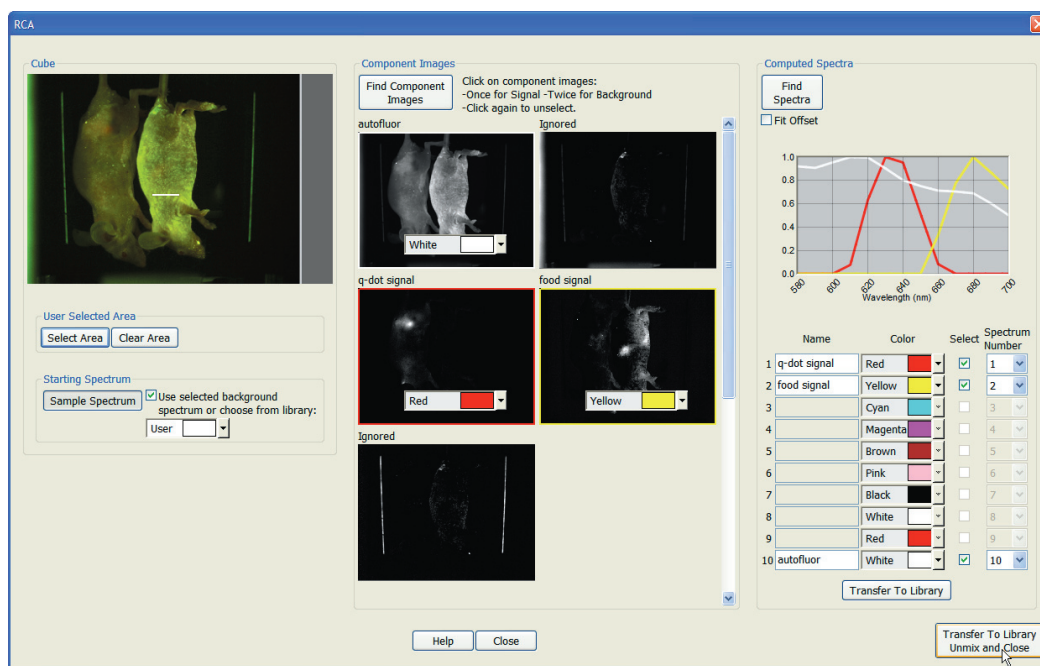

Figure 28. Unmixing with Real Component Analysis (RCA)
- e. Click once on the image that shows the quantum dot-labeled tumor. Set its pseudo color to red (see Figure 28). Its name will default to “Signal_3.”
- g. Click the **Find Spectra** button. The computed spectra will display on the graph and appear in the color palette. If desired, rename “User” to “autofluorescence”. Rename “Signal_3” to something more descriptive like “q-dot signal.” Rename “Signal_4” to “food signal” or something similar. Your screen should look similar to Figure 28.